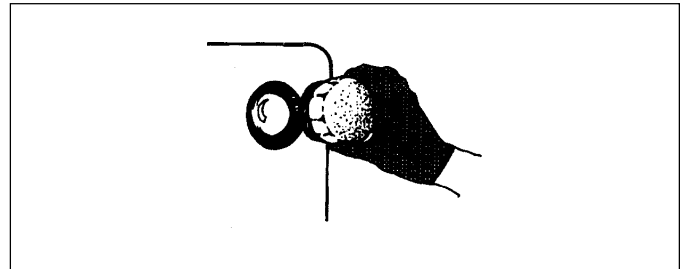

Figure 20
3. Unscrew light bulb cover located in rear of oven cavity. Then turn light bulb counterclockwise to remove. (Figure 20)